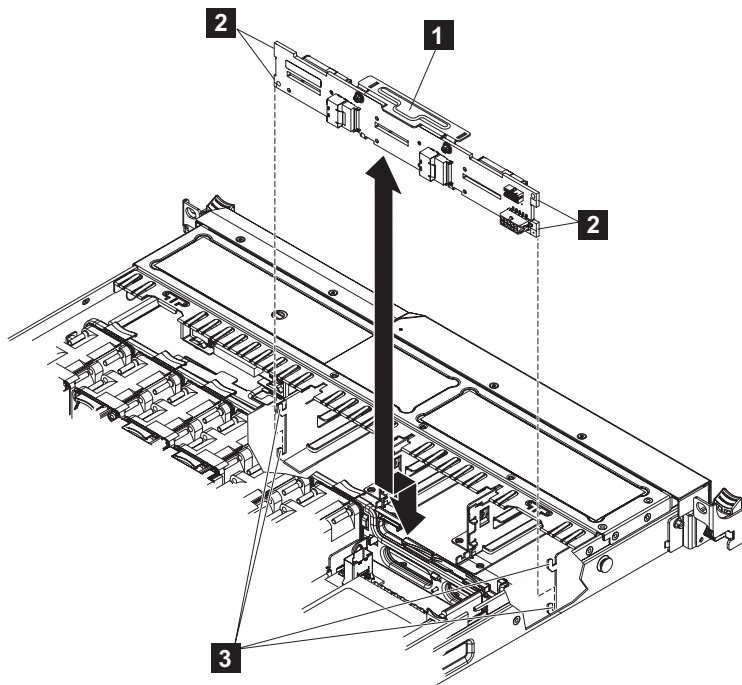

Figure 118. The SAN Volume Controller 2145-CF8 disk backplane
12. Lift up the disk-drive backplane ( **1** in Figure 118) to disengage the backplane tabs ( **2** ) from the slots ( **3** ) on the backplane bracket; then, push the backplane backwards until it is clear of the slots on the bracket and remove it from the node.